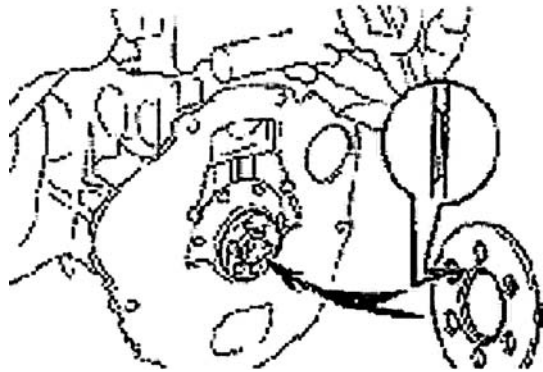

Figure 35
61. Install flywheel and ring gear. See (Figure 35)